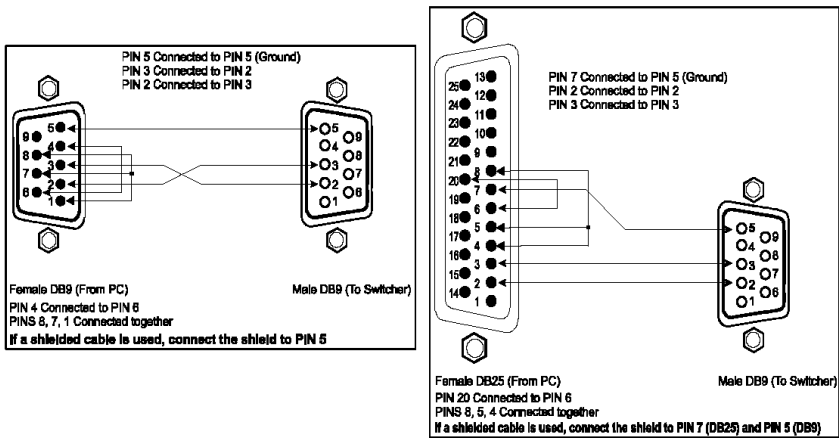

Figure 10: Connecting a PC without using a Null-modem Adapter
- Connect the RS-232 DB9 port on your PC to the RS-232 DB9 rear panel port on the **VP-88ETH** unit, as Figure 10 illustrates2 (depending on whether the PC has a 9-pin or 25-pin connector)